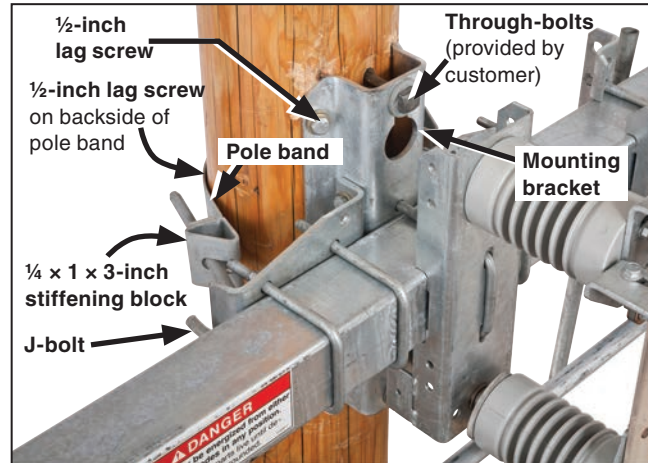

Figure 7. Typical pole-band (catalog number suffix “-P1”) attachment detail. Vertical mounting configuration shown; upright and inverted are similar.
STEP 6. Secure the pole band (optional) to the mounting bracket on the switch, using the J-bolts provided. See Figure 7. Two ¼ × 1 × 3-inch stiffening blocks are furnished to be used behind the pole-band flanges and underneath the J-bolt nuts. Lag the pole band to the back side of the pole through the hole in the center of the band using one of the five ½-inch-diameter lag screws provided. Then, lag the mounting bracket to the pole using the four remaining ½-inch lag screws as shown in Figure 7.